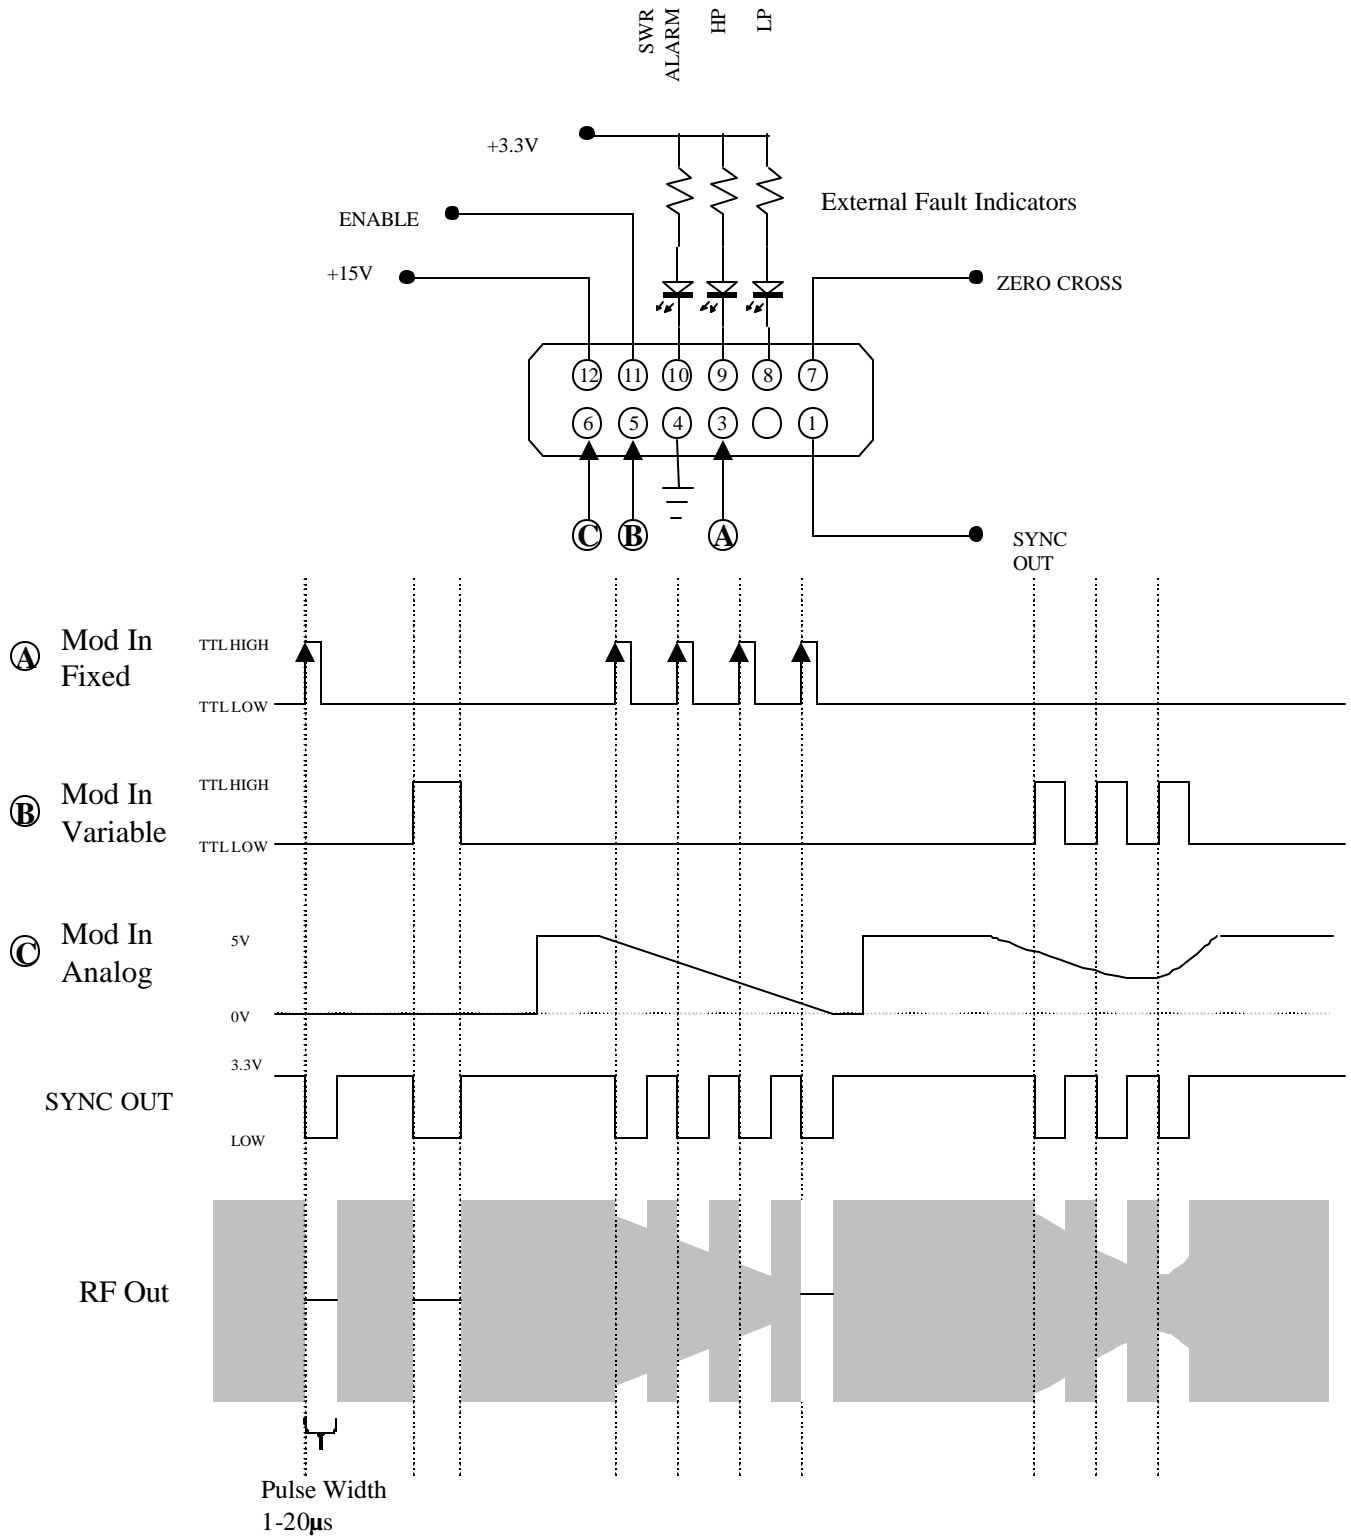

FIGURE 5
- **For A05 Control Option: See Figure 5**